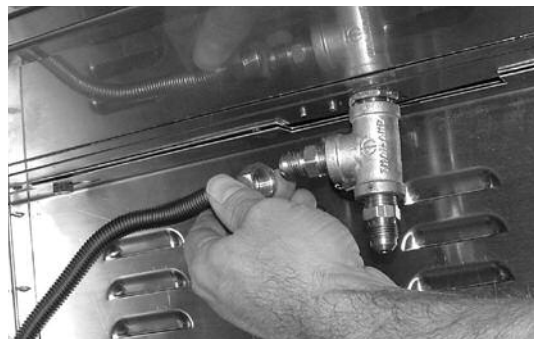

Fig 27
5. Attach one end of the supplied hose to the flared fitting on the side of the “T” connector. (See Fig. 27) The other end of the hose will be attached to the side burner later.
6. Attach the 3/8” nipple to the bottom of the “T” connector (See Fig. 27)
8. If not already attached, attach a 3/8” to flared fittings to the input side of the regulator as shown. Tighten with wrench. (See Fig. 27)